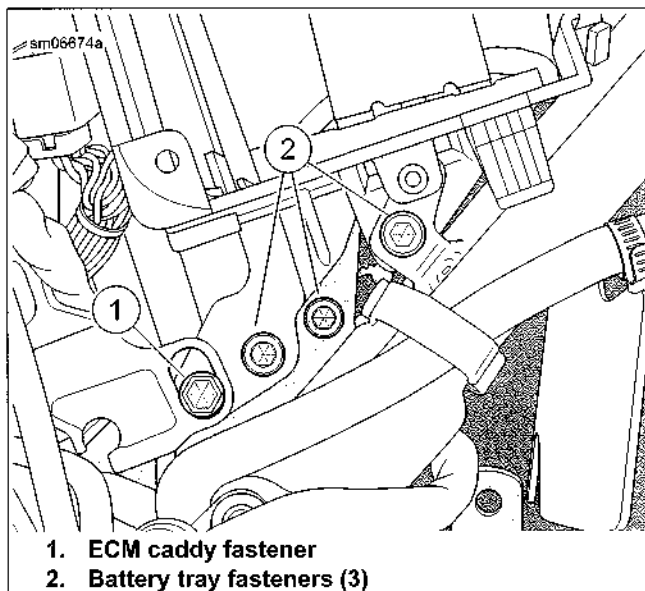

Figure 6-17. Battery Tray Fasteners
10. See Figure 6-17. Remove the ECM caddy fastener (1) and the battery tray fasteners (2) and battery tray.